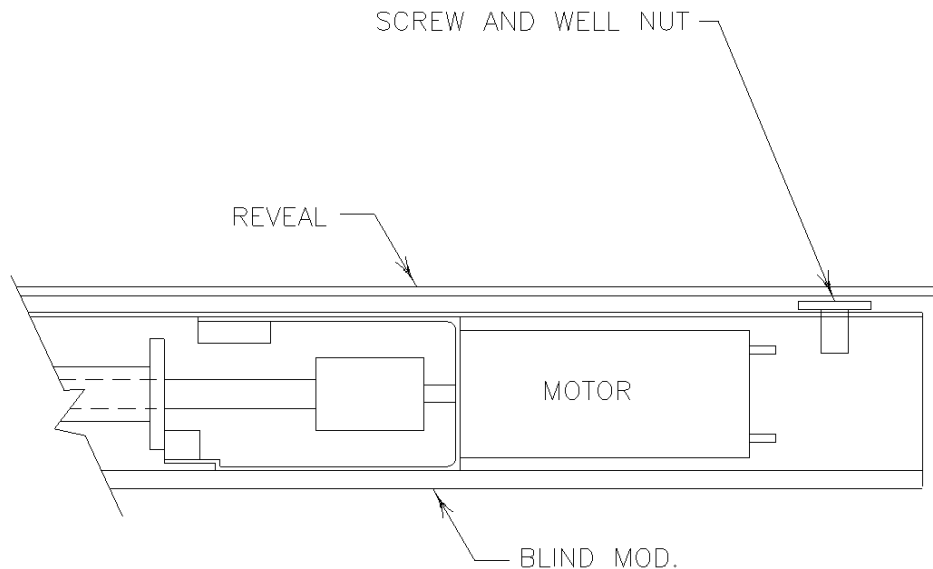

FIGURE 9/ GRAPHIC 25-23-02-991-009
- B. The blind mod. is attached with two screws on the backside of the reveal. Remove the two screws and the blind will be free from the reveal. Refer FIGURE 9/ GRAPHIC 25-23-02-991-009